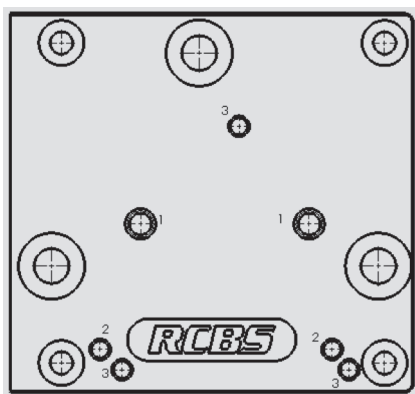

Fig. 4 **LAM Heater Bolt Pattern Reference**
2. Attach the lube/sizer to the heater using the supplied hardware. Refer to **Fig. 4 (pg. 7)** for the bolt hole locations for various lube/sizers.